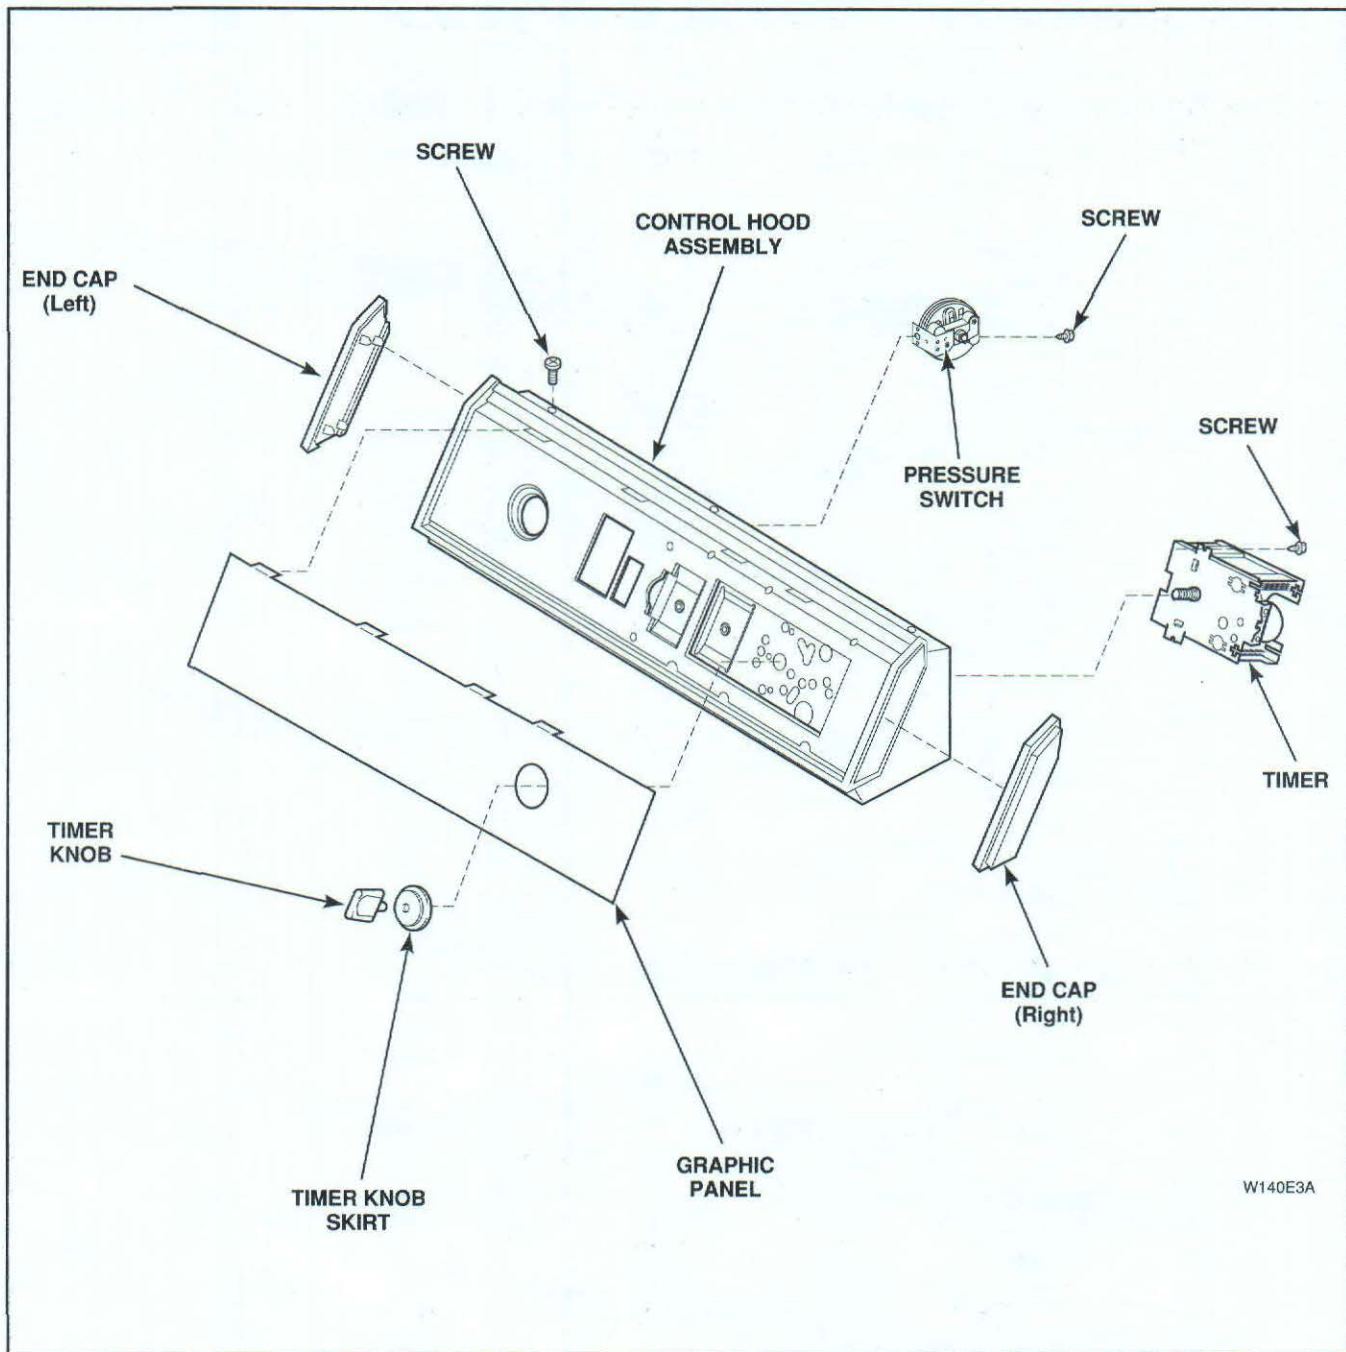

Figure 5
5. CONTROL HOOD ASSEMBLY (Figures 5 through 8)
6. TIMER (Refer to Figures 5 through 8)
- d. Refer to *Figures 5 through 8* for switch removal.
- Refer to *Figures 5 through 8* for switch removal.
(Refer to *Figures 5 through 8*)